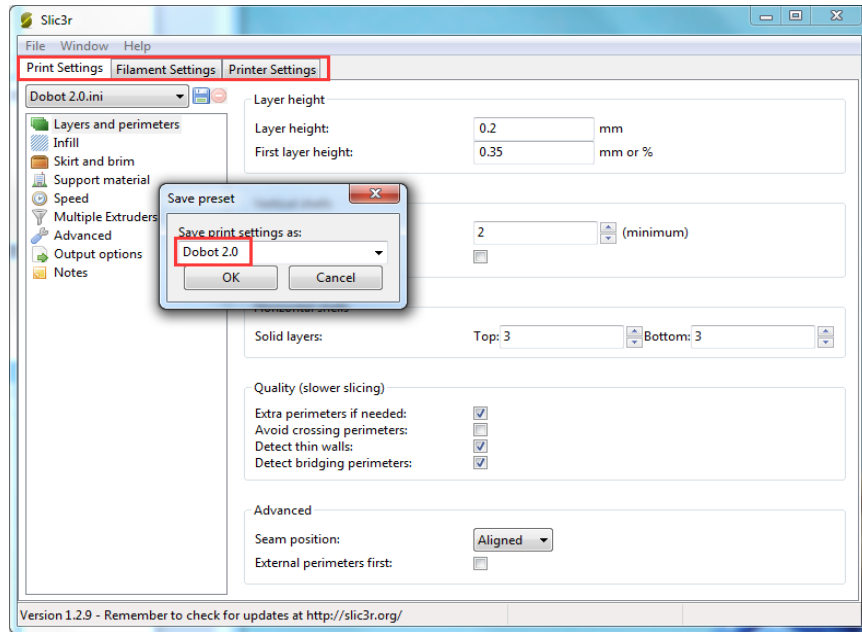

Figure 5.128 Save configuration file
3. Save the **Printing Settings**, **Filament Settings** and **Printer Settings** tabs respectively after importing configuration sample, as shown in Figure 5.128.